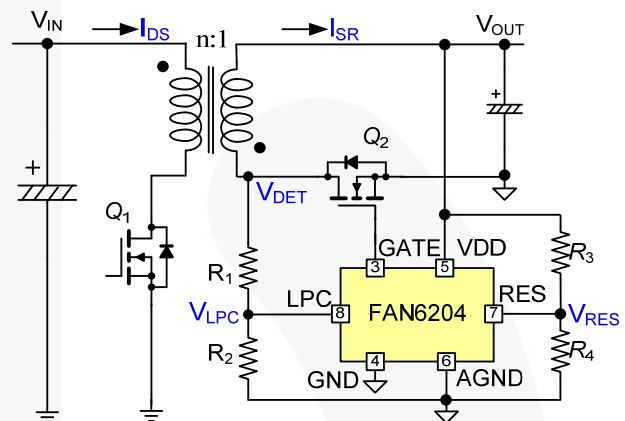
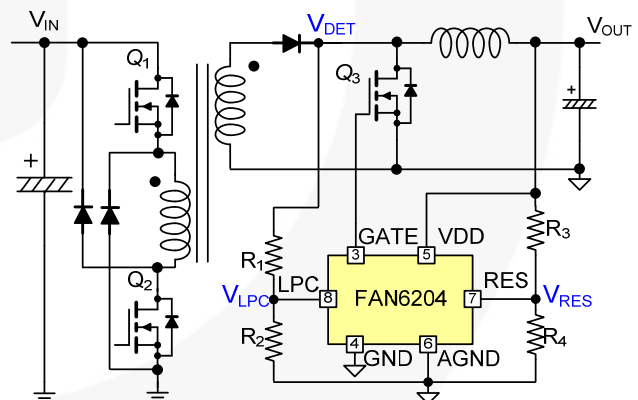
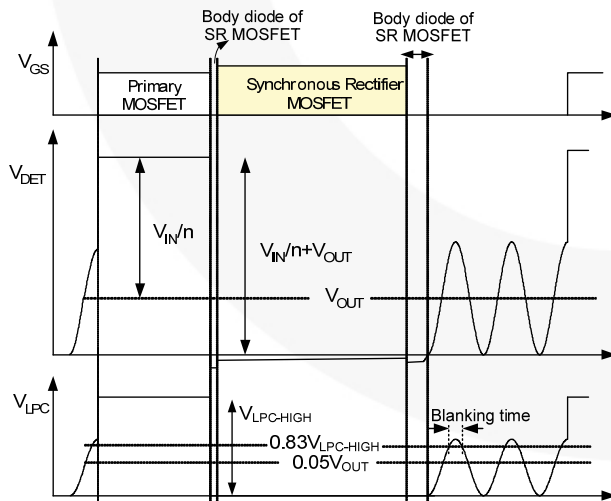

Figure 1. Typical Application Circuit for Flyback Converter
Figure 2. Typical Application Circuit for Dual-Switch Forward Free-wheeling Rectification
Figure 3. Typical Waveforms of QR Flyback Converter with FAN6204
This application note presents the design considerations for Fairchild secondary-side synchronous rectification (SR) controller, FAN6204, which is suitable for Continuous Conduction Mode (CCM) / Discontinuous Conduction Mode (DCM) / Quasi-Resonant (QR) flyback converters and dual-switch forward free-wheeling rectification (Figure 1 and Figure 2).
As shown in Figure 1, the resistors on the LPC and RES pins need to be designed appropriately for linear predict timing control. Referring to Figure 3, when LPC voltage is higher than V_{LPC-EN} over a blanking time (t_{LPC-EN}), SR gate is ready to output. After LPC voltage drops below $V_{LPC-TH-HIGH}$ ($0.05 V_{OUT}$), SR MOSFET starts to output. Therefore, V_{LPC-EN} must be higher than $V_{LPC-TH-HIGH}$ or the SR MOSFET cannot be turned on. Consequently, the voltage divider of LPC, R_1 and R_2 , should be considered as:
Figure 2 shows a typical application circuit for applying FAN6204 on forward free-wheeling diode rectification. V_{LPC-EN} must be higher than $V_{LPC-TH-HIGH}$ so the voltage divider of LPC, R_1 and R_2 , should be considered as: